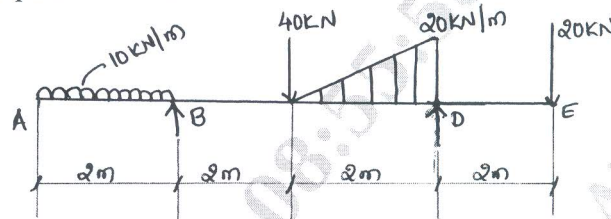

Fig.Q5
- 5 Draw the shear-force and bending moment diagram for a overhanging beam shown in Fig.Q5 and locate the point of contraflexure.